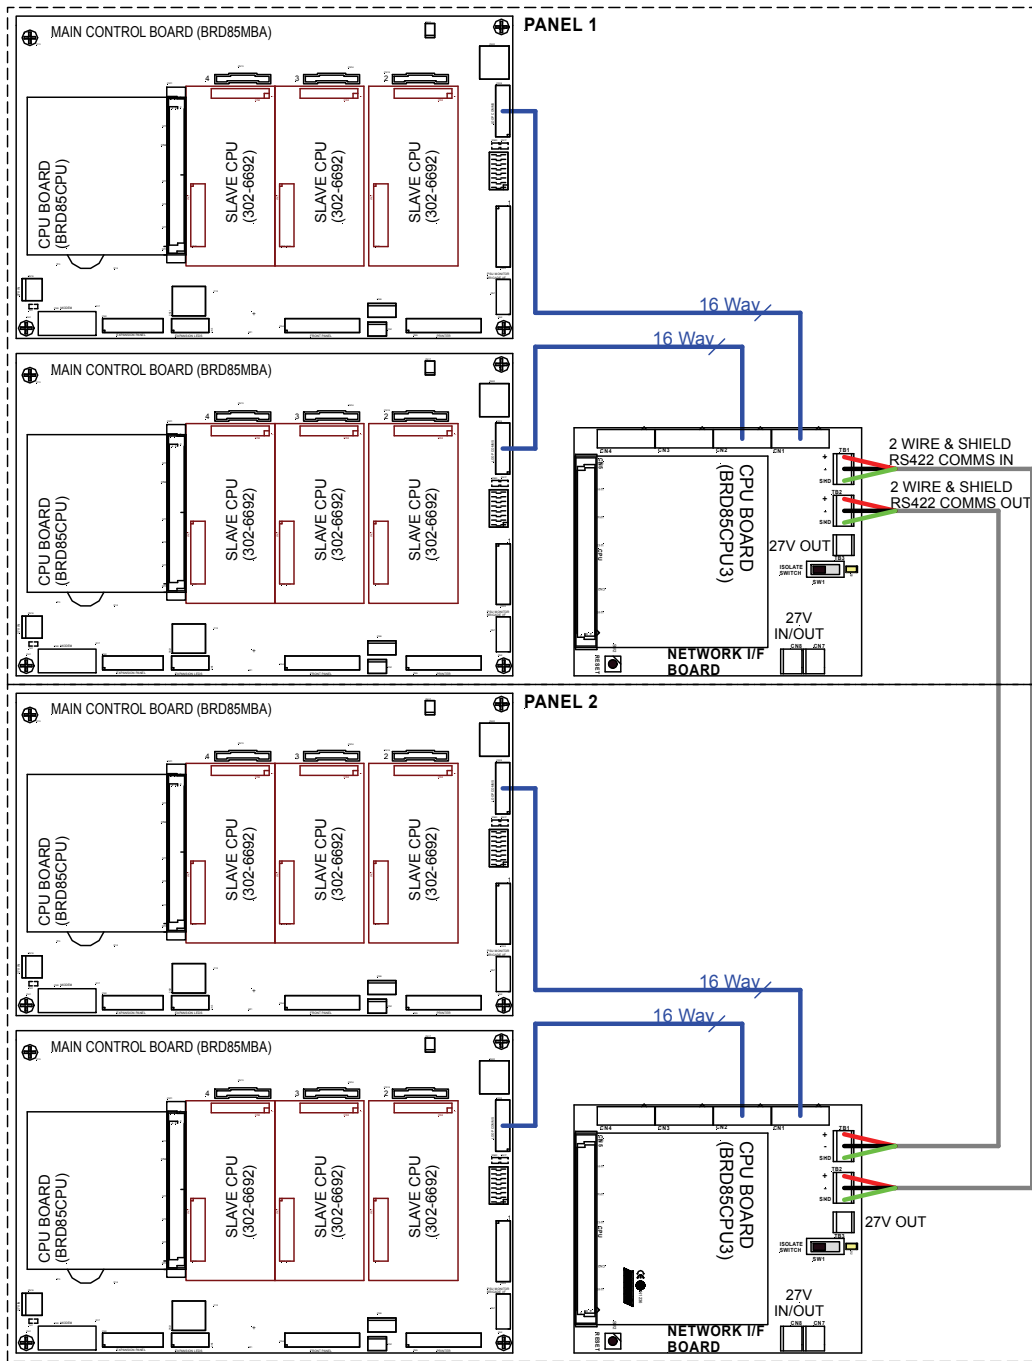

Figure 2: General Wiring of Two FACP's on a network
4. Using the supplied 16 Way ribbon cable connect CN1 on the NIC Board to CN18 (Loop Comms) of the Main Control Board. See Figure 2
6. Bring the field cabling into the FACP through a suitable knockout and terminate to the required Connectors. See Figure 2